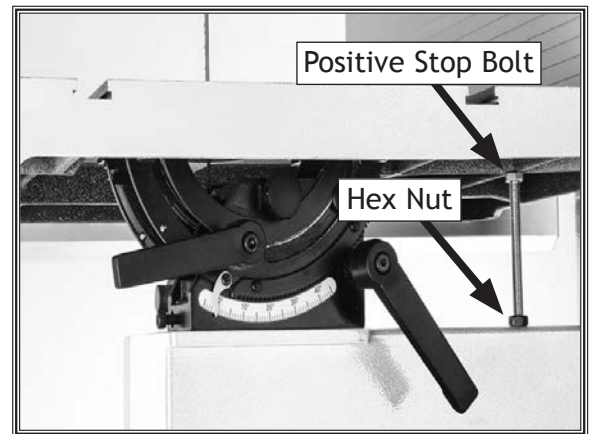

Figure 61. Location of positive stop bolt and hex nut.
3. Loosen hex nut (see **Figure 61**) that locks the positive stop bolt in place.
4. Raise guide post and place a machinist's square on table next to side of blade, as illustrated in **Figure 61**. Adjust table square with blade, then secure it with table tilt lock lever.